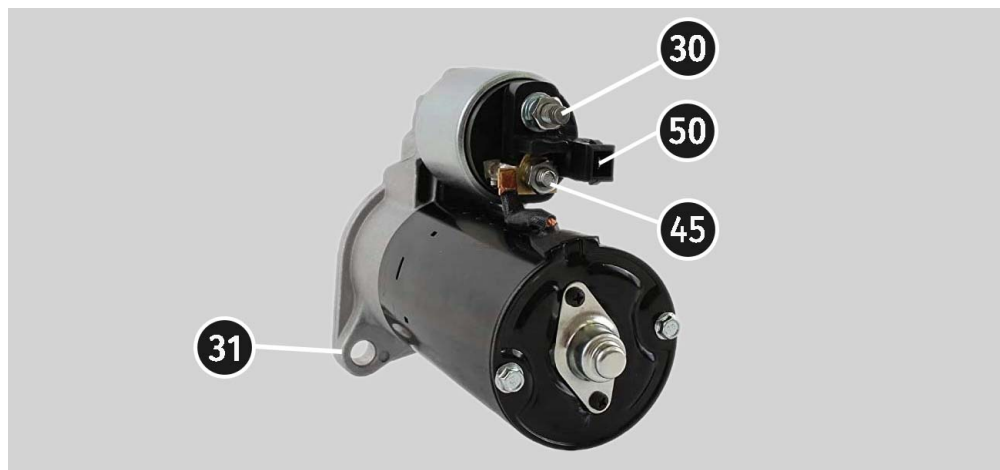

Figure 31. Terminal Locations on the Starter
3. Connect the bench connector "50" with a cable to the control output of the starter solenoid terminal 50, see Figure 31.
4. Connect the universal diagnostic cable K30 and K45 wires to the corresponding terminals of the starter, see Figure 31.